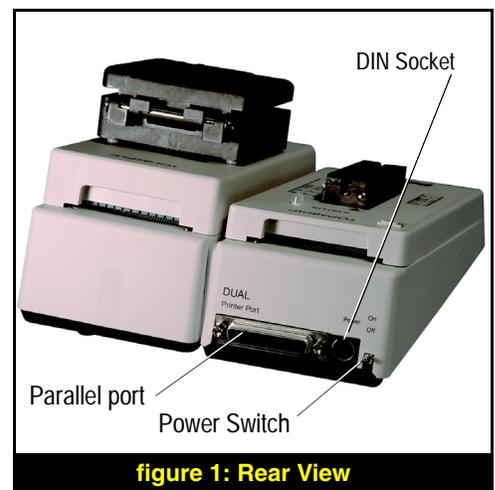

figure 1: Rear View
1. Connect one end of the parallel cable to the port on the back of the programmer. See figure 1.
3. Install the power supply by inserting the small DIN jack of the power supply into the power socket on the back of the programmer. This jack is keyed and cannot be inserted incorrectly. See figure 1.